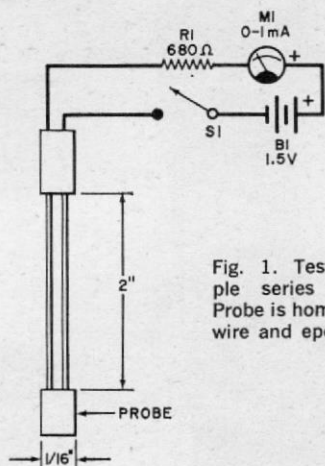

Fig. 1. Tester is simple series d.c. loop. Probe is homemade with wire and epoxy cement.
**The circuit** (see Fig. 1) of the photo-
Referring to Fig. 1, wire together the